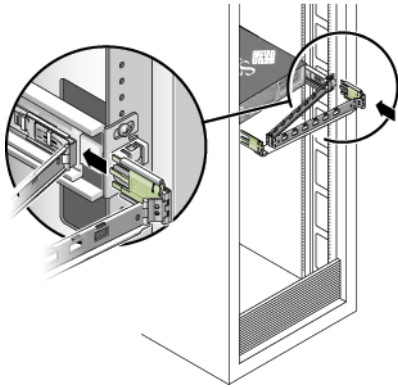

FIGURE 2-5 Inserting the CMA Mounting Bracket Into the Rear of the Right slide rail
4. Insert the CMA's mounting bracket connector into the right slide rail until the connector locks into place with an audible click (FIGURE 2-5).